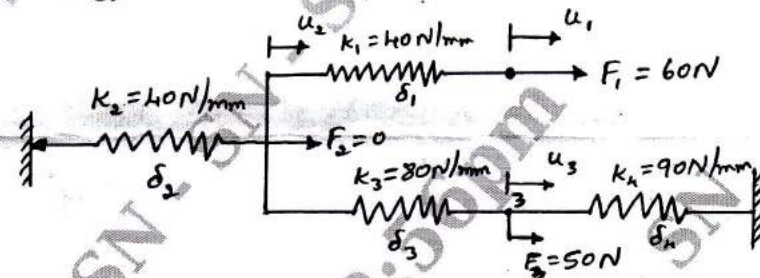

Fig Q2(b)
- b. For the spring shown in Fig Q2(b), determine the nodal displacement using principle of minimum potential energy.